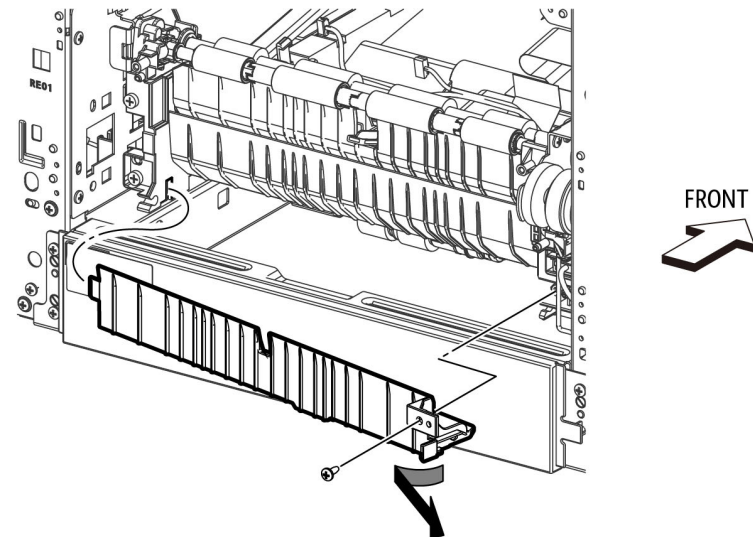

Figure 3 Remove the Feeder Chute
7. Refer to Figure 3 to remove the screw (silver, tapping, M3x8mm) attaching the Feeder Chute and pull out the chute in the direction of the arrow.